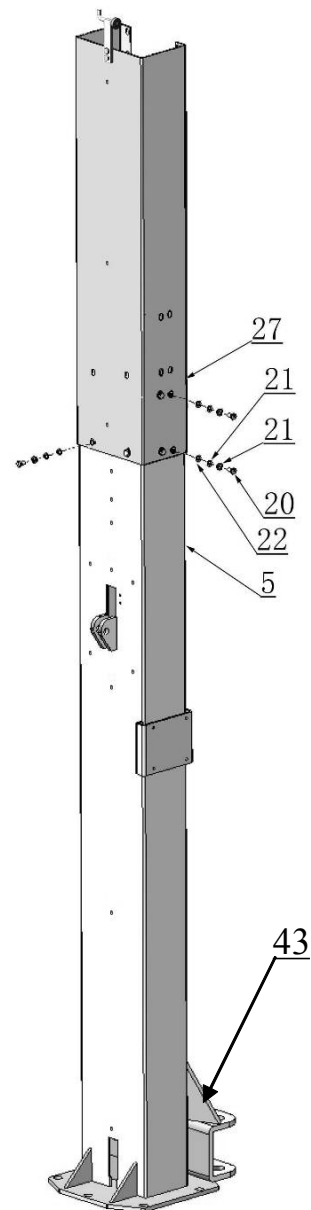

Fig. 15 High Setting
2. When the ceiling height is over 3850mm (151 1/2"), connecting the outer columns with the lower hole **(See Fig.15)**.